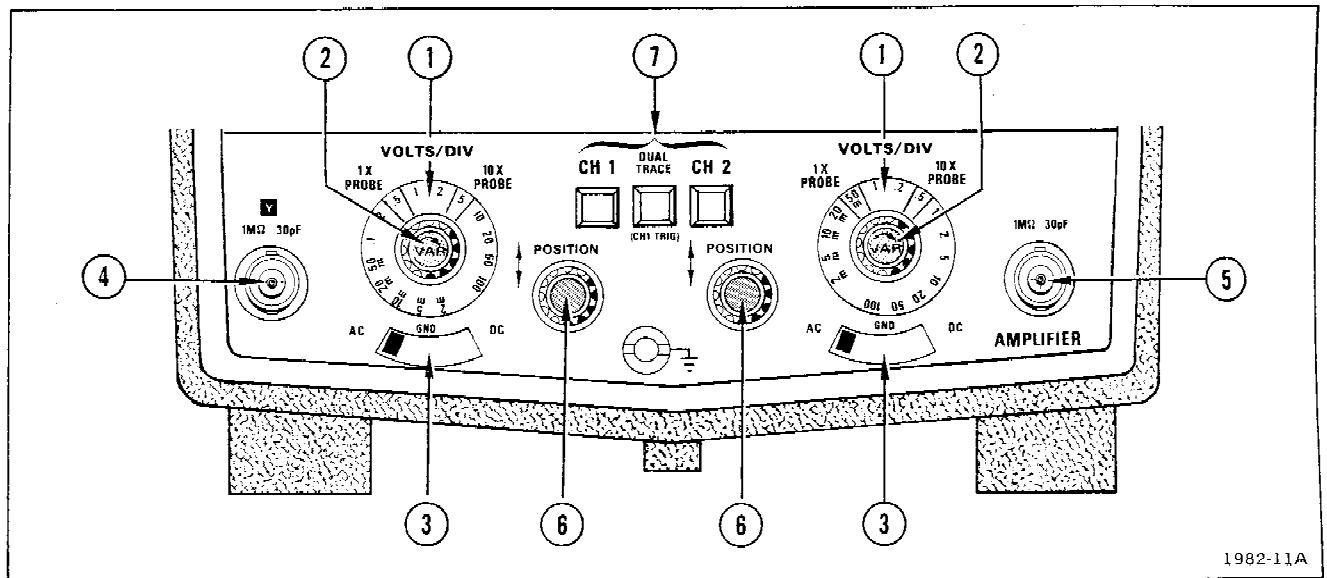

Fig. 2-5. Vertical amplifier front panel controls.
- ⑱ **CH 2 DC BAL**—Screwdriver adjustment. When properly adjusted, prevents trace shift when switching between adjacent positions of the CH 2 VOLTS/DIV switch.
**Front Panel (Fig. 2-5)**
- ① **VOLTS/DIV**—Selects the vertical deflection factor in a 1-2-5 sequence (VAR control must be in detent position to obtain the indicated deflection factors). Read the correct deflection factor for a 1X probe from the 1X position and a 10X probe from the 10X position.
- ② **VAR**—Provides continuously variable uncalibrated deflection factors between the calibrated steps of the VOLTS/DIV switches. Extends the maximum deflection factor to 25 V/div in the 10 V position. Detent position provides calibrated VOLTS/DIV deflection factors.
- ③ **Input Coupling**—Selects the method of coupling the input signal to the vertical input signal amplifier.